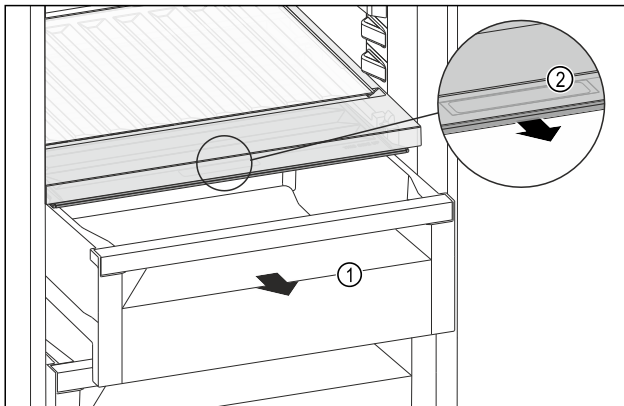

Fig. 146
- ▶ Pull out the drawer Fig. 146 (1).
- ▶ Grasp the recessed grip Fig. 146 (2) on the compartment lid and pull the compartment lid forwards at the same time.